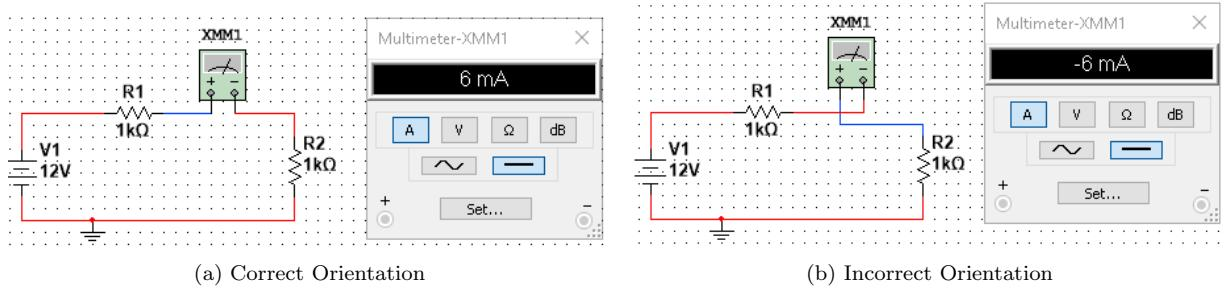

Figure A.16: Orientations for Ammeter
- The current flowing through the multimeter enters the positive terminal and exists the negative terminal. This is for the same reason as the voltmeter. Examples of the two different cases are seen in Figure A.16